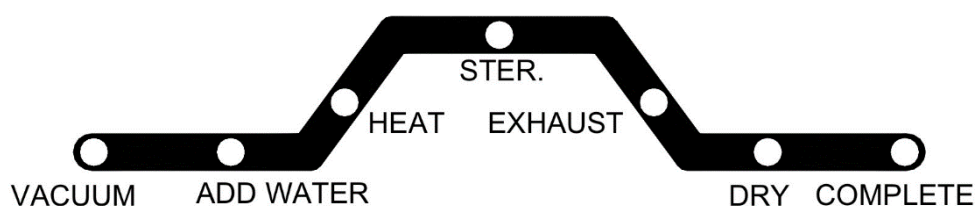

Figure 17
- D. Press the START Button , the setting temperature, duration, and dry time displayed two times on the three-digit display, and then the sterilizer will automatically run through the selected program. The current progress of the sterilization cycle is indicated by the illuminated LED on the Process Status Indicator. (Figure 17)